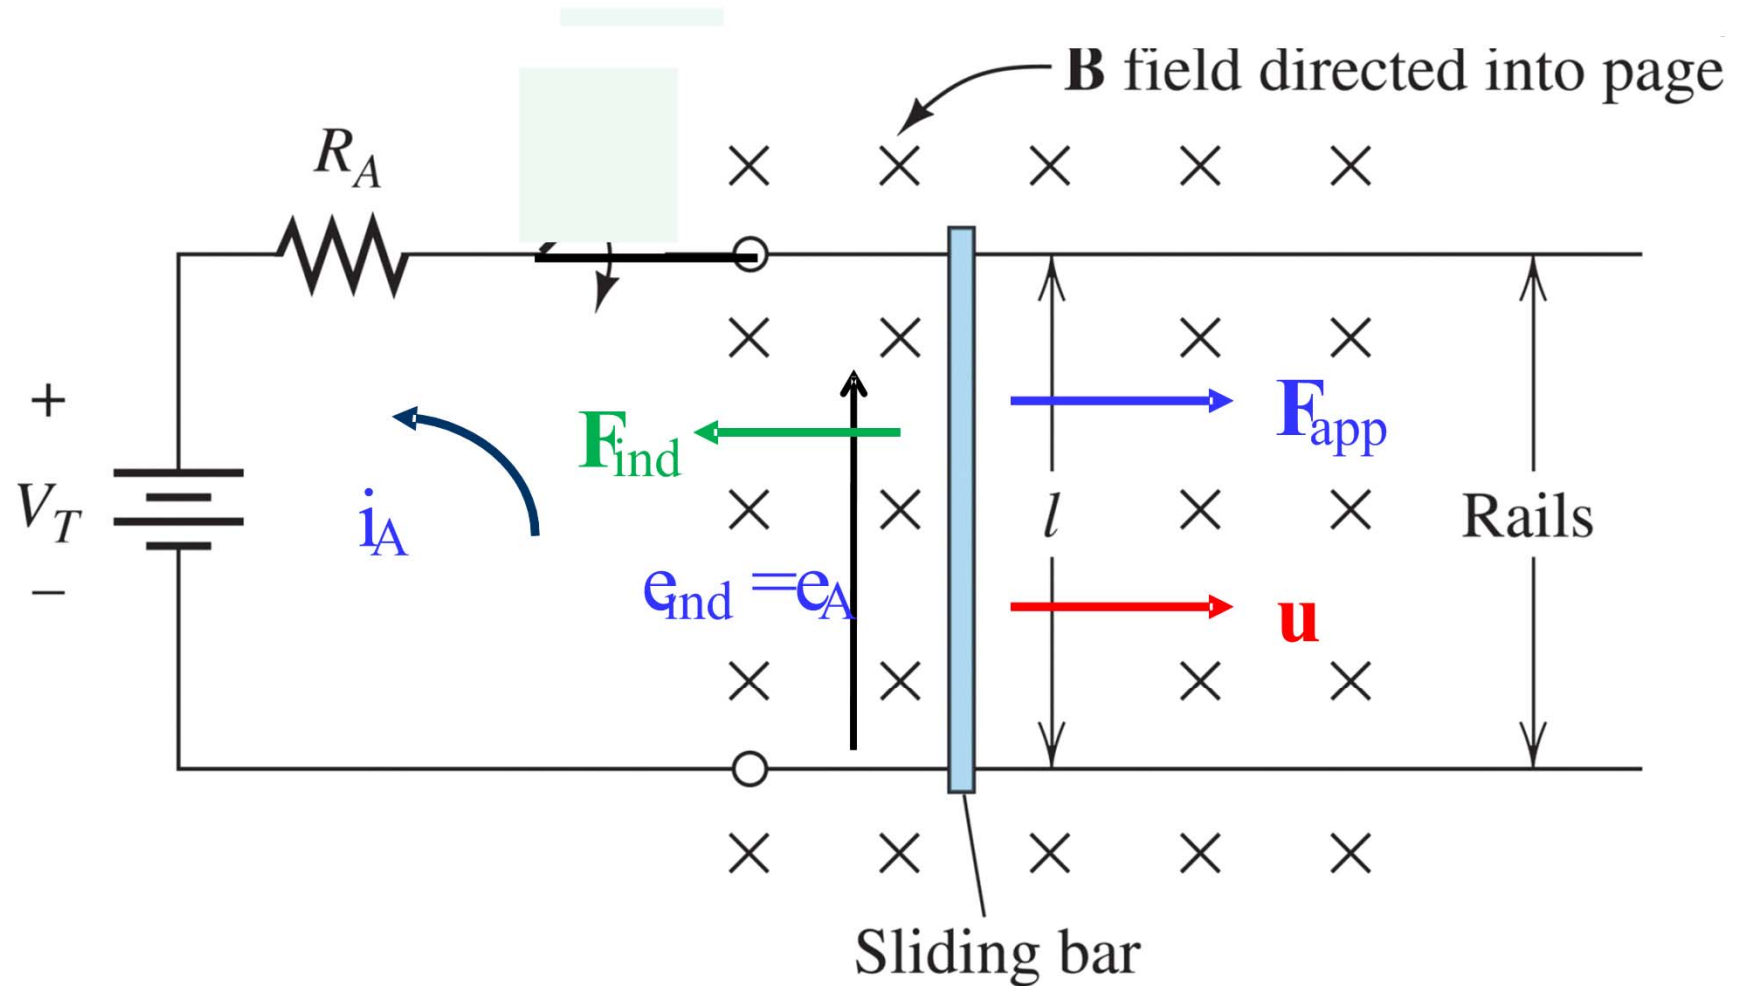

Fig. 5.7 A simple linear dc machine operating as a generator.
- As the current i_A moves up along the bar, the force induced in the conductor would be to the left and given by the RHR and is shown in Fig. 5.7.